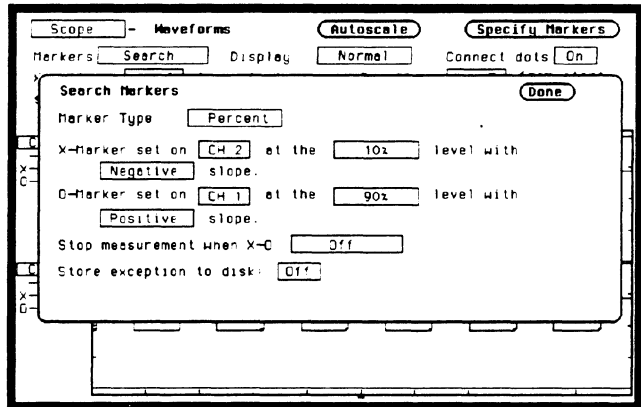

Figure 25-22. Specify Search Markers Pop-up
2. Select **Specify Search Markers**. Set the Search Markers pop-up as shown in figure 25-22.